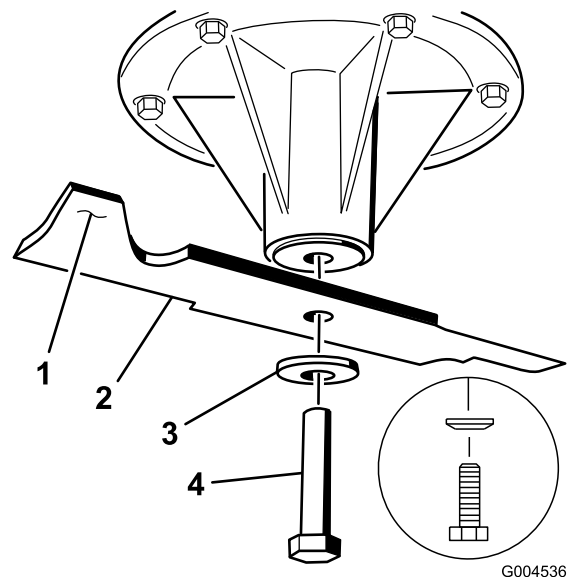

Figure 83
1. Install the blade onto the spindle shaft (Figure 83).
2. Install the spring disk and blade bolt. The spring disk cone must be installed toward the bolt head (Figure 83). Torque the blade bolt to 85-110 ft-lb (115-150 N-m).